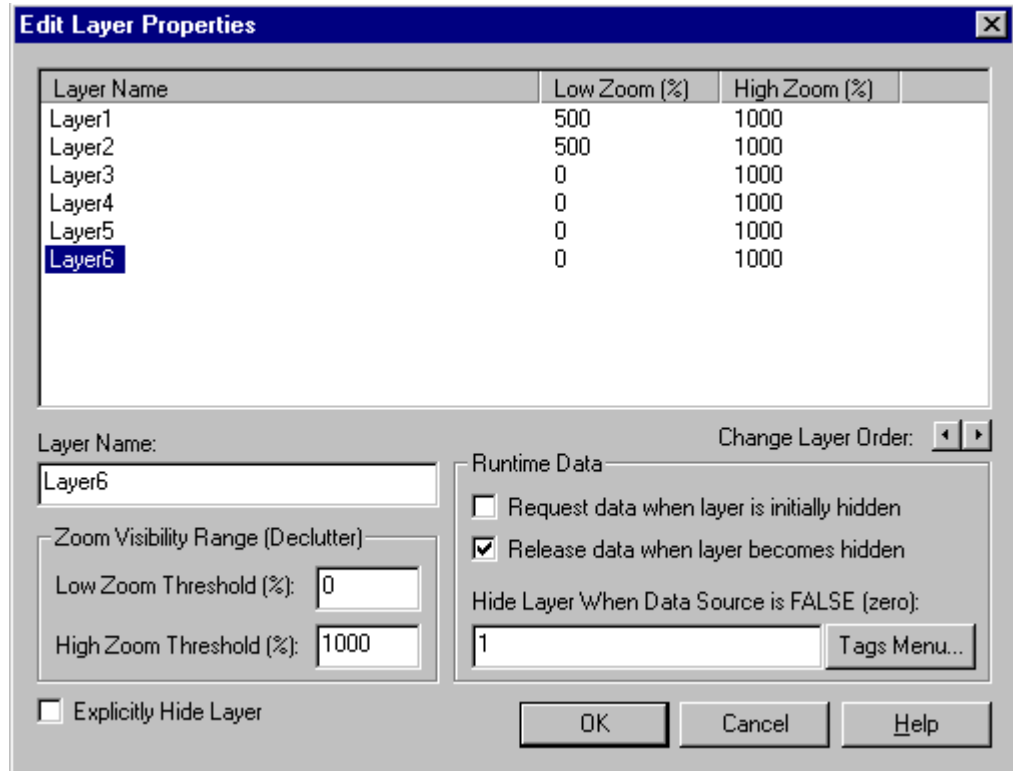

Figure 7-5: Edit Layers Properties Dialog Box
1. On the Format menu, select Layers > Edit Layer Properties. The Edit Layer Properties dialog box appears (Figure 7-5).